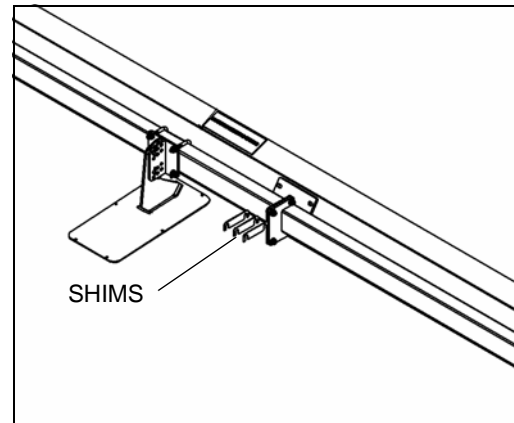

**Figure 4.37**
*Refer to Figure 4.37 for complete assembly of backboard stiffener.*